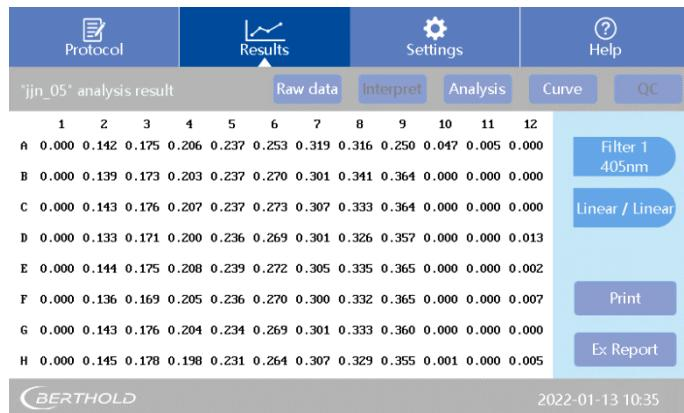

Fig 39: Measurement results for quantitative analysis
- Click <Analysis> to display the results of your quantitative assay run in microplate format. See Fig 39